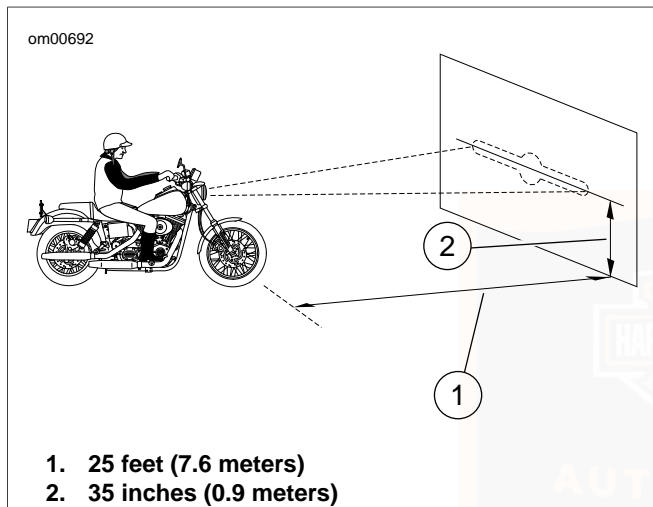

Figure 39. Checking Headlamp Alignment: Dyna Models
3. See Figure 39. Position motorcycle 25 ft (7.6 m) away from a screen or wall. Measure the distance from directly below the front axle to the base of the screen/wall.